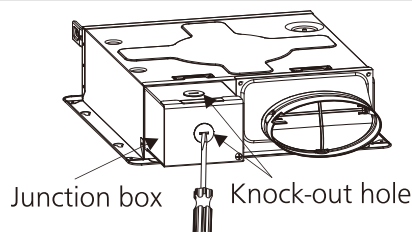

Fig.2
2. Open one knock-out hole on junction box. (Fig.2)